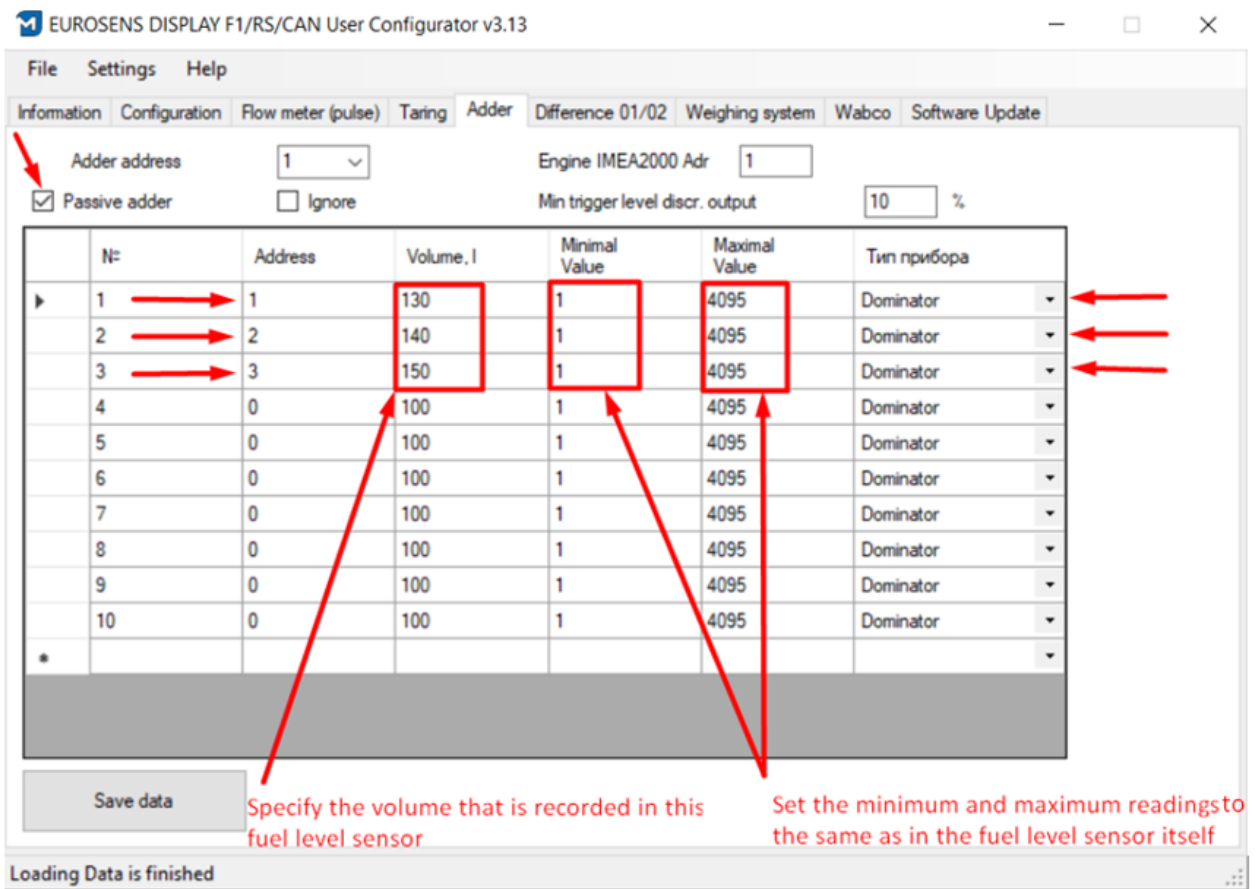

Fig.4.6. "Passive adder" settings
- 3) On the Adder tab set the same settings, but additionally enable the **Passive Adder** option (fig.4.6). With these settings, Display will scan the RS-485 interface for requests and responses via MODBUS protocol, which are made by the external device to the sensors. The responses are registered by the Display and then the summing and display operations are performed with them.
The settings of the tab "Adder" in this mode are similar to those shown in fig.4.6. Since the external datalogger is a "master" on the RS-485 bus, the display must be a passive adder.